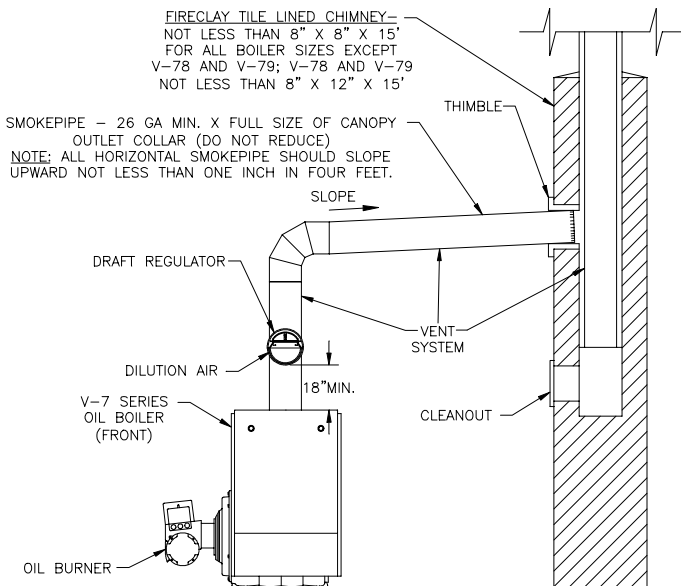

Fig. 13: Recommended Smokepipe Arrangement and Chimney Requirements
- G. INSTALL SMOKEPIPE** — The V7 should be vented into a fireclay tile-lined masonry chimney or chimney constructed from type L vent or a factory built chimney that complies with the type HT requirements of UL103. The chimney and vent pipe shall have a sufficient draft at all times, to assure safe proper operation of the boiler. See Figure 13 for recommended installation.